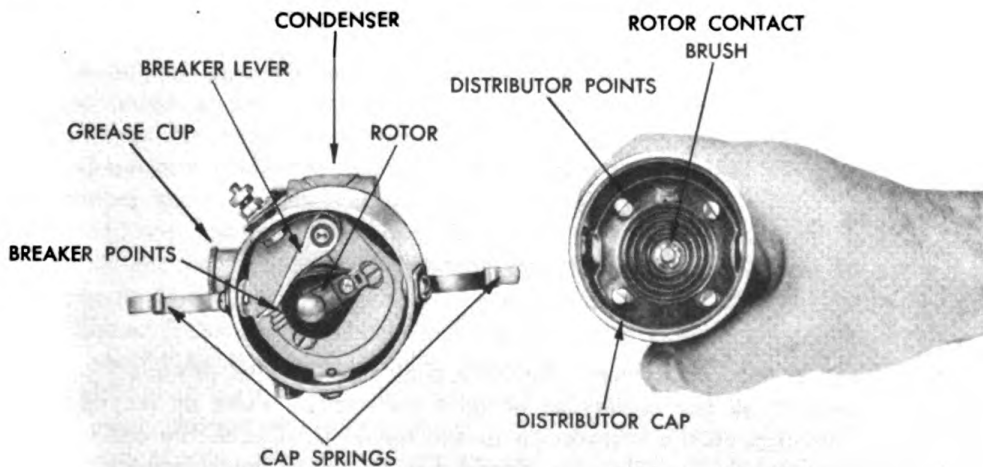

Figure 269. Distributor Cap Removed.
The breaker contacts of the distributor are connected in the coil primary circuit so that the rotation of a cam opens the coil circuit at the proper instant to generate a spark. The distributor cap and rotor are arranged so that the high tension voltage is connected to the correct spark plug for firing each cylinder. Figure 269 illustrates the components of the distributor.
- c. Apply a light wipe of high melting point non-fibre grease to the breaker cam. Be careful not to get oil or grease on the cap and rotor breaker contacts as oil or dirt materially shorten their life. See figure 269.
- a. Remove the distributor from engine as given in paragraph 349. Detach the distributor cap and lift off rotor from breaker cam figure 269.